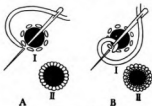

FIGURE 37
*Buttonholed Eyelets* (Figure 37). — There are two kinds of eyelets, buttonholed and overhanded, and they may be either round or oval in shape.